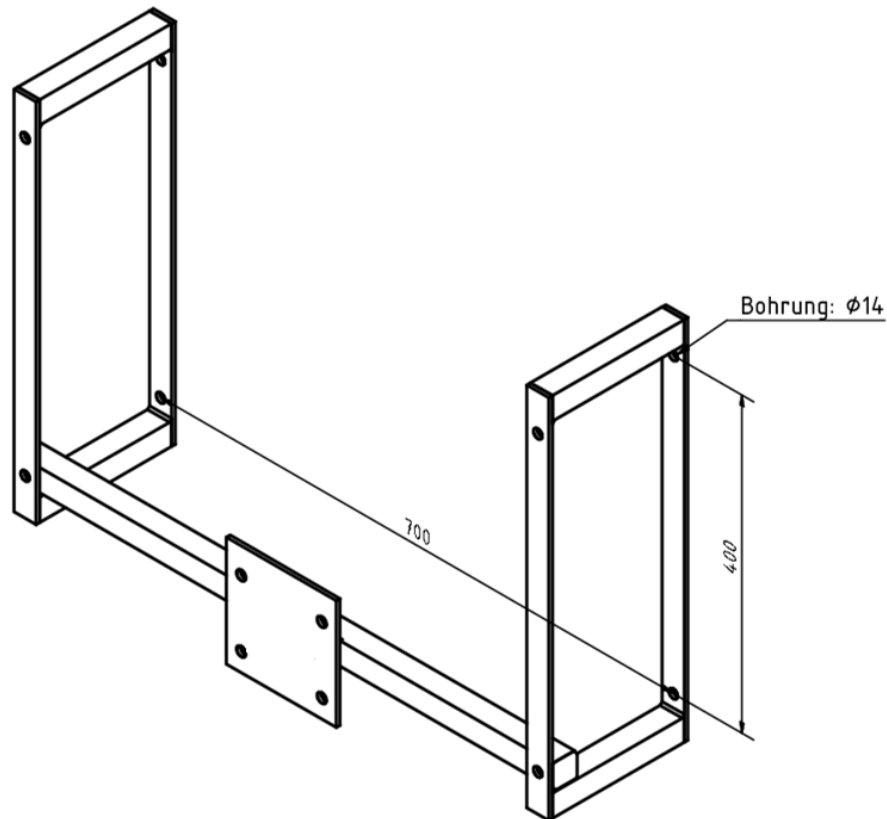

figure 3: bore dimensions wall mounting
Fasten the side section ① to the wall at the desired height with the drill hole distance of 700mm (see figure 3). Use the supplied screws ⑧ und plastic dowels. ⑩